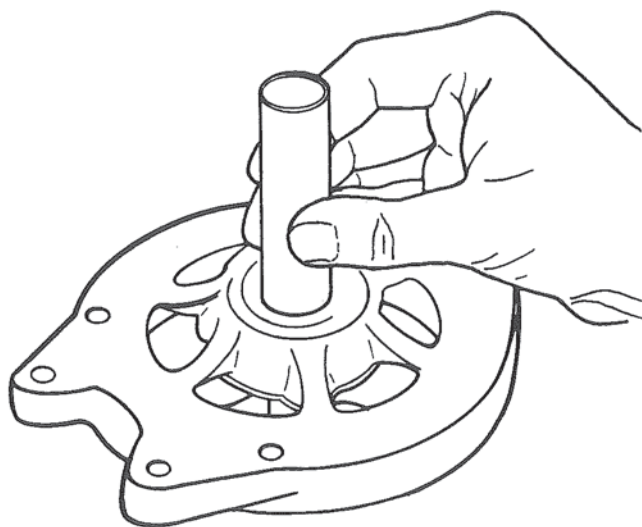

Figure 33. Bearing Removal.
5. Bearing can be removed from end head by removing retainer plate and screws, then pressing bearing out. Figure 33.